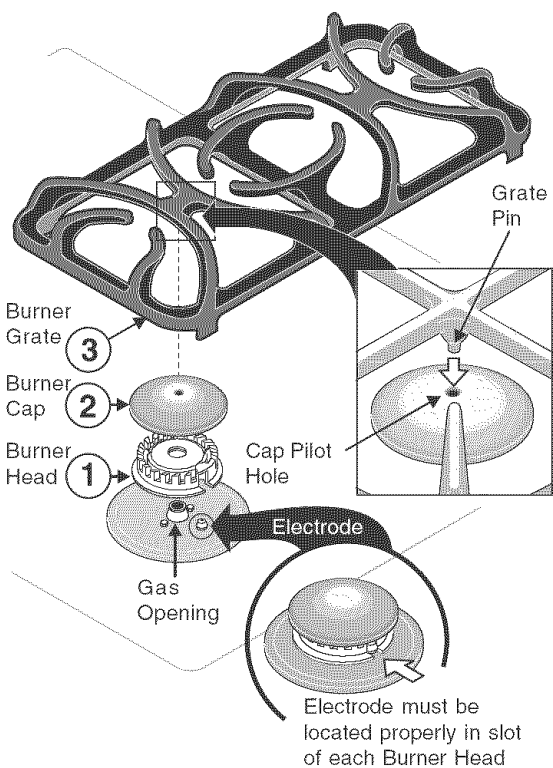

Figure 2
1. Place all 4 Burner Heads in the correct locations (See Figure 1). Make sure that the correct Burner Head is placed with the corresponding Gas opening and that the Electrode is located properly in the slot of each Burner Head (See Figure 2). Proper Burner Head placement insures that each Burner will have the correct spark required for surface gas ignition.